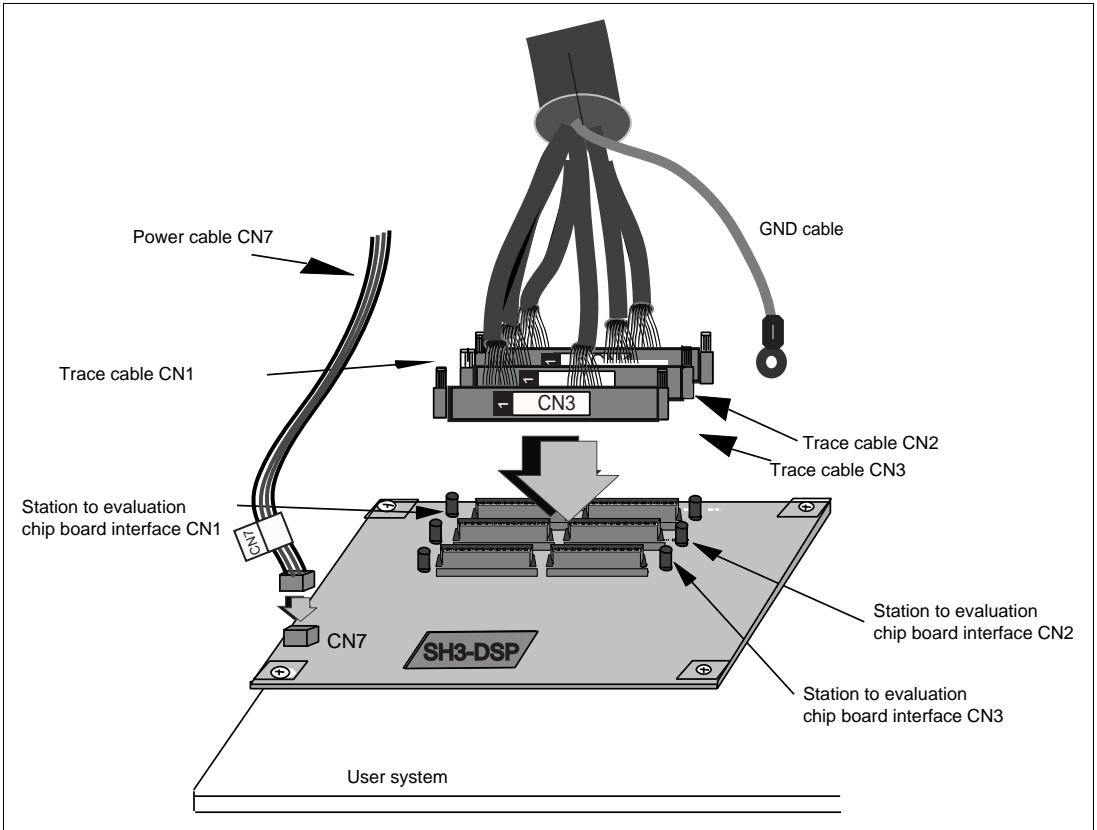

Figure 3.5 Connecting Trace Cables to the Evaluation Chip Board
4. Connect the trace cables to the station to evaluation chip board interface connectors CN1, CN2, and CN3 on the evaluation chip board. Confirm that each trace cable connected to a connector on the emulator station is also connected to its corresponding station to evaluation chip board interface connector on the evaluation chip board. Connect the cables using the same method as in step 3. Figure 3.5 shows how to connect the trace cables to the evaluation chip board interface connectors.
5. Connect the power cable in the device control board to the evaluation chip board. The power cable prevents an insertion error. Figure 3.5 shows how to connect the power cable.